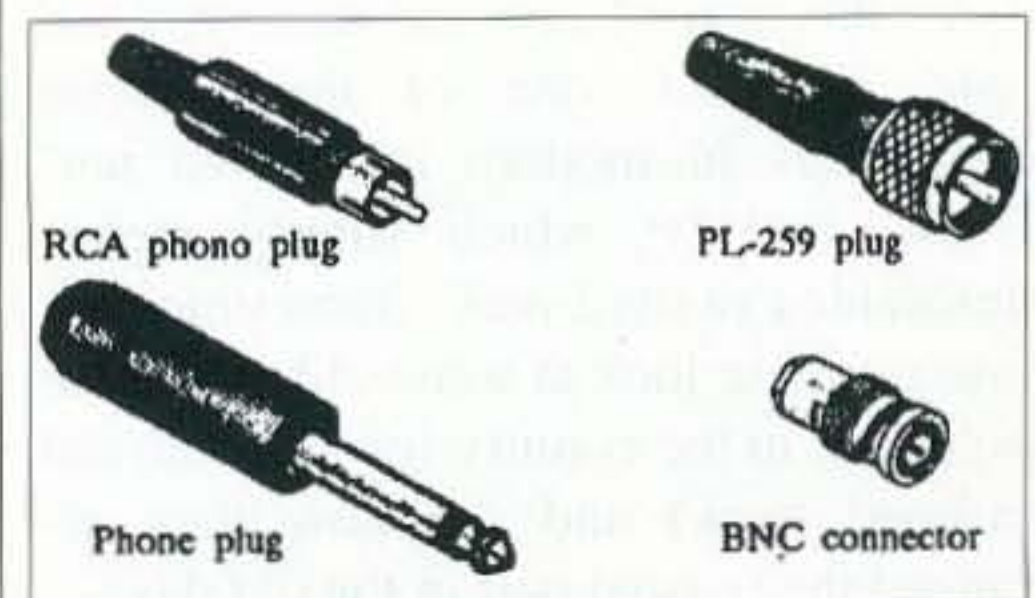

Fig. 3. Several connectors for shielded wire.
Shielded wire is used for many purposes, from carrying audio signals to carrying radio frequency (RF) or microwave signals; in the latter case, it is often called *coax* or *coaxial cable*, rather than shielded wire, but the principle is the same. Fig. 3 shows several popular connectors for audio (the RCA phono plug and the phone jack) and for radio-frequency signals (the PL-255 RF connector and the BNC connector).